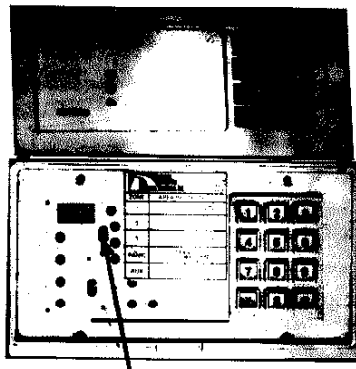

FIGURE 8: RUN/LOAD SWITCH
- (1) Lift cover.
- (2) Use small screwdriver to push RUN/LOAD switch down to LOAD position.^(*) (Figure 8.)
- (3) Press 2 to 6 digits on keypad.
- (4) Return RUN/LOAD switch to RUN position.